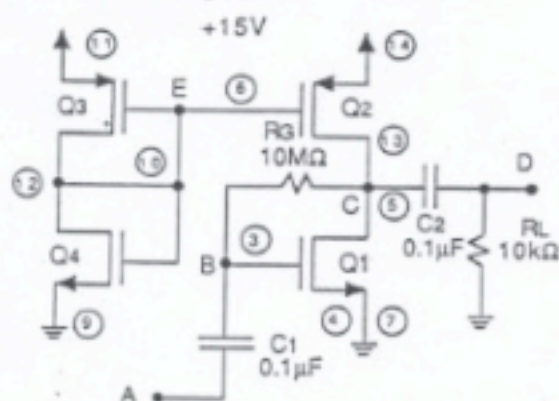

Figure 5.5 A CMOS Common-Source Amplifier
- (a) For the circuit of Fig. 5.5, in which $|V_{t1}| = 1.0$ V and $k = 0.6$ mA/V², find the device drain currents which result, and V_C .
- Assemble the circuit shown in Fig. 5.5 using Q_2 , Q_3 and Q_4 to provide a constant-current load to Q_1 . Note the substrate connections, *as essential!*
- Use Fig. 5.5, as in E3.1 above, with a 0.1 V_{pp} triangle wave at 10 kHz applied at *A*.
- Reconsider the circuit of Fig. 5.5, but with a 1 MΩ resistor connected between node *A* and the generator at node *I*.